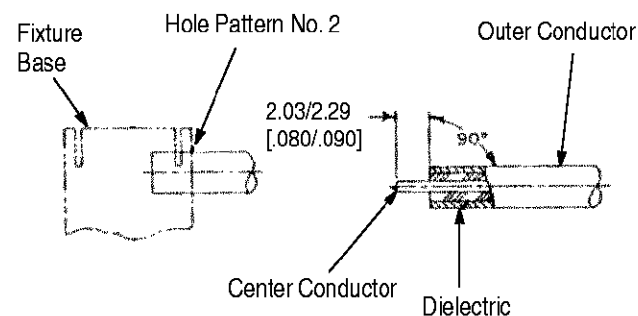

Figure 3
2. Place the saw in the saw slot and cut through the outer conductor and into the dielectric while rotating the cable. See Figure 3.
5. Trim the center conductor to the dimensions shown in Figure 3.